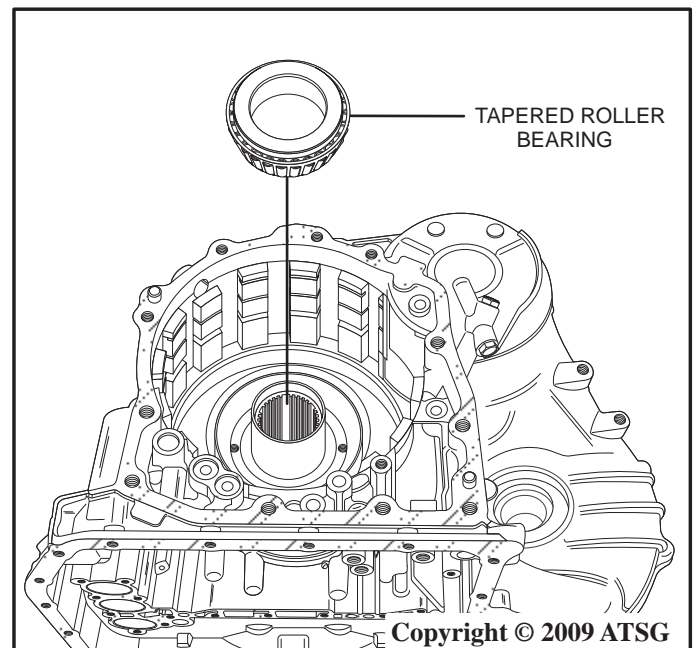

Figure 145
5. Coat the tapered roller bearing with a small amount of ATF, then use SST 09950-60010 (09951-00890), 09950-70010 (09951-07150) or other suitable tool and a press to install the counter drive gear and the tapered roller bearing into the case, or set the case in a suitable press, and while supporting the counter drive gear press the tapered roller bearing over the counter drive gear as shown in Figure 145.